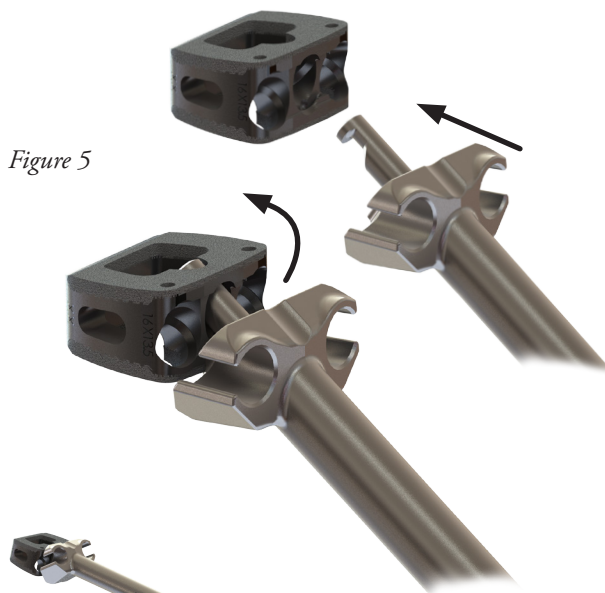
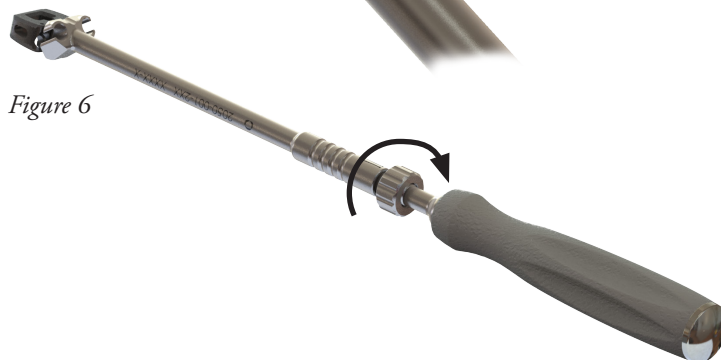

Figure 5
Figure 6
Attach the assembled Inserter to the chosen implant by inserting the “hook” at the distal end into the center screw hole on the anterior face of the implant. Push the inserter into the hole with a slight upward pressure to seat the hook (Figure 5). Thread the Speed Sleeve down against the face of the cage to lock the cage on the inserter (Figure 6). The implant can now be inserted into the disc space.
3. Ensure the implant is not hindered by any bone or soft tissue. Then, attach the Implant Inserter to the exposed front of the implant and gently remove, following the guidance in figure 5 on page 3 of the surgical technique.